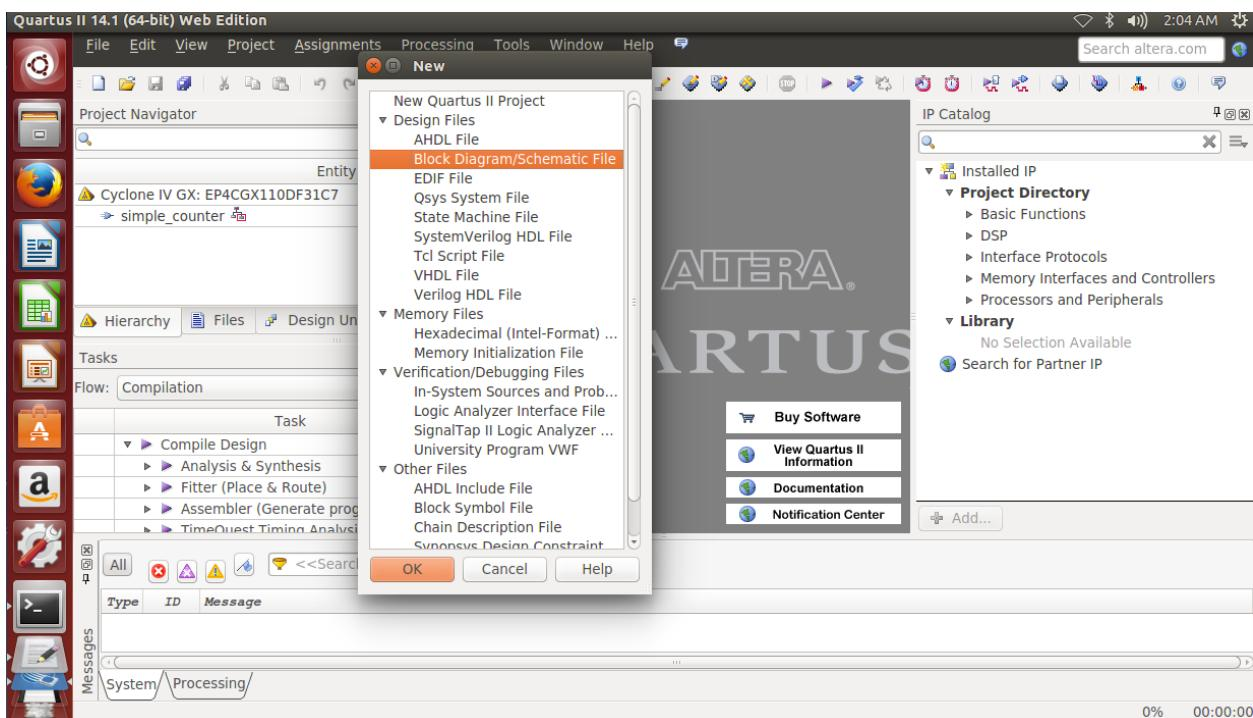

fig 3.1.5
8. Choose **File > New > Block Diagram/Schematic File** (see fig 3.1.5 to create a new file, Block1.bdf, which will automatically save as the top-level design.